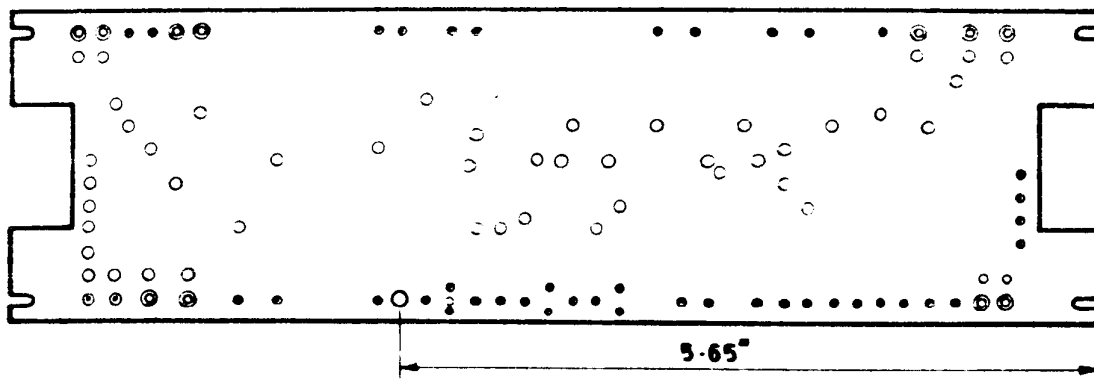

Figure 3-5 Location of terminal LS10
- (1) Heatsink in honeycomb
- (2) Heatsink to IC1
- (3) U7 Card to honeycomb
- f. Remove riveted terminal LS10 on U11 board (see figure 3-5) and increase hole dimension to 0.120".